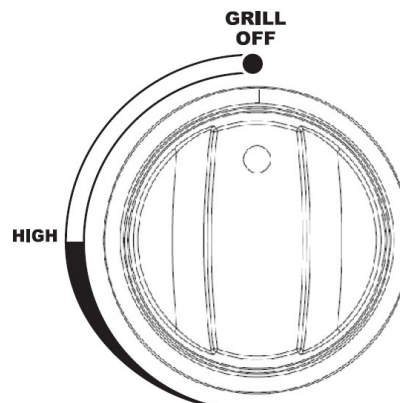

Fig. 6
5. Turn off the burner control knobs. (see Fig. 6)
6. Turn the top knob of the fuel supply cylinder counterclockwise two (2) rotations to open.